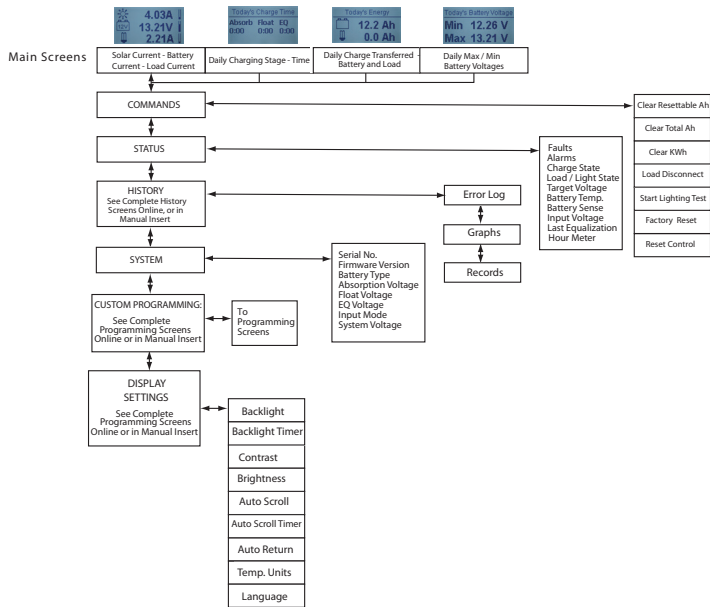

Figure 4-6. Simplified Meter Map. For metered models, see the included complete meter map insert, also available in the ProStar support documents at:
- Extensive settings adjustment and information as shown partially in Figure 4-6 below.
The display setting options, as seen in Figure 4-6, are adjustable by using the directional keys to locate and edit a desired setting or variable.